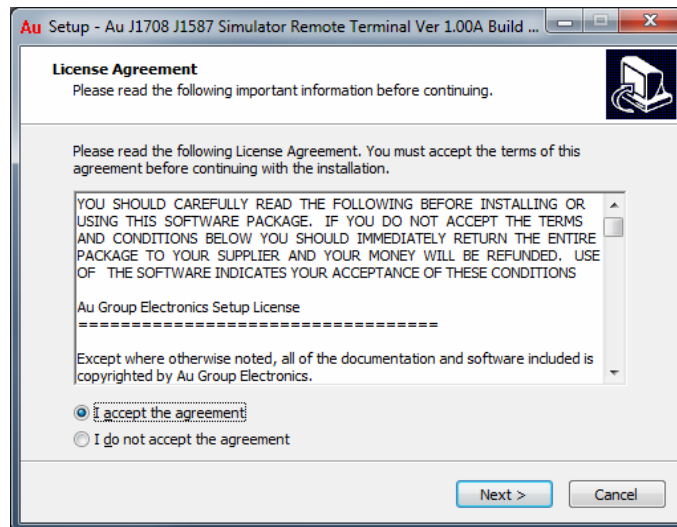

Figure 6-2
2. A “License Agreement” window will pop up. Please read the license agreement and select “I accept the agreement”. Click “Next” to continue (Figure 6-2).